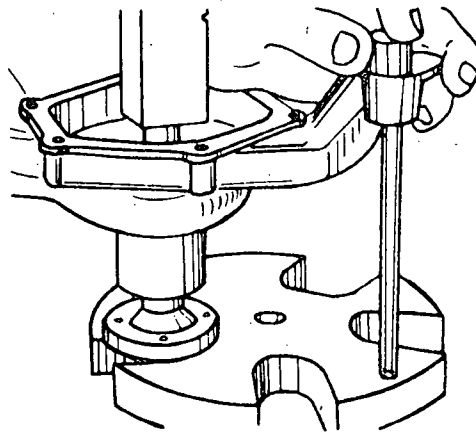

Fig. 4
- e) Install the hub by using a press (fig. 4).